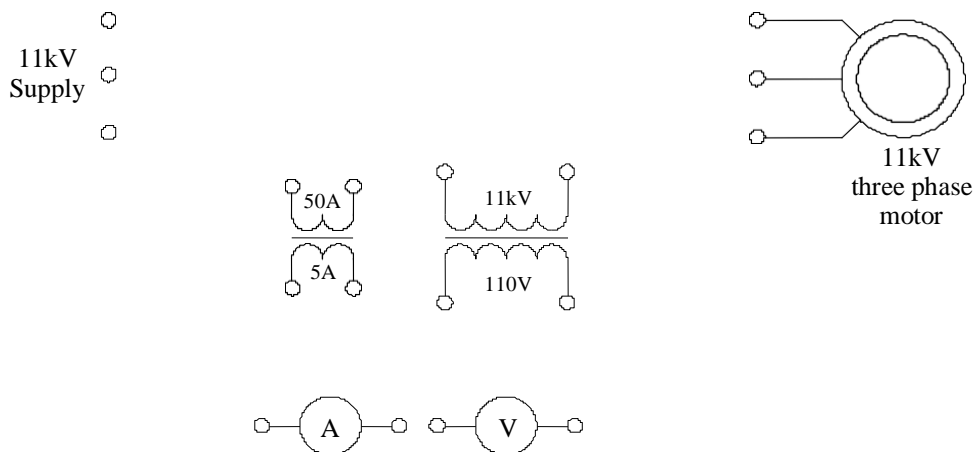

Figure 1
1. Re-draw the symbols shown in figure 1 and connect the ammeter, voltmeter and wattmeter to measure the line current and line voltage of the three phase motor. The instruments are to be connected via instrument transformers. Note, a bar type CT is used.